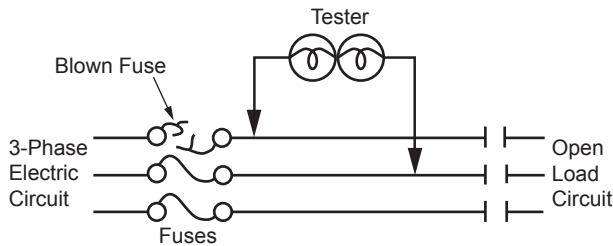

Figure 3.
**Testing a Non-Working Circuit. Figure 3.** If circuit is not connected to a load, test across each pair of wires on the load side of the fuses. If there is one blown fuse, the bulbs will light up when connected across the two good fuses, and will fail to light on the other two pairs of wires.